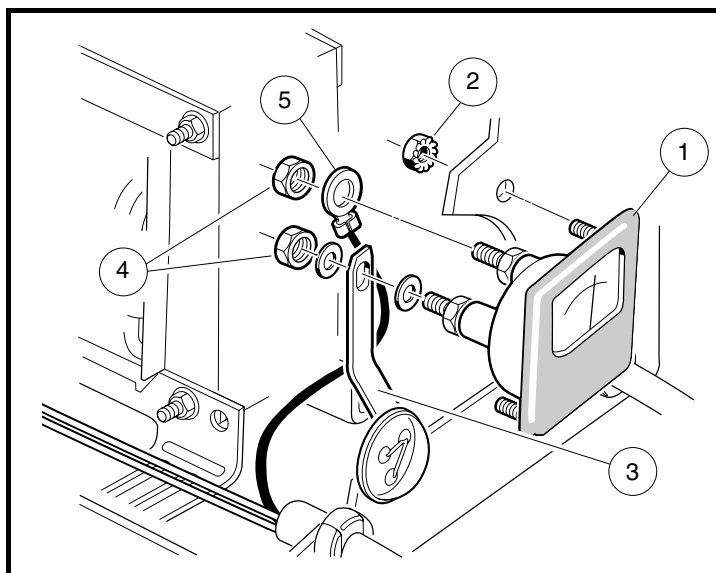

Figure 14-20 Ammeter Removal
2. Disconnect black wire from DC cord (5), and bus bar (3) from ammeter (**Figure 14-20, Page 14-23**).
3. Remove the two nuts (2) that secure the ammeter to the charger face (**Figure 14-20, Page 14-23**).
1. Place the ammeter in position in the charger face (**Figure 14-20, Page 14-23**).
2. Install the nuts (2) and tighten until ammeter is firmly secured (**Figure 14-20, Page 14-23**).
3. Connect the black wire of the DC cord (5) to the left (as viewed from inside the charger) post of the ammeter (**Figure 14-20, Page 14-23**).
4. Connect the bus bar (3) from the fuse link to the right post of the ammeter. Place flat washers on both sides of the bus bar (**Figure 14-20, Page 14-23**).
5. Thread nuts onto both posts of the ammeter until just past finger tight. While holding the outside nut, turn the inside nut counterclockwise 1/4 turn (**Figure 14-20, Page 14-23**). **See following CAUTION.**
- DO NOT ALLOW AMMETER POST TO ROTATE AS THE NUT (4) IS TIGHTENED. IF IT IS ALLOWED TO ROTATE, THE AMMETER COULD BE DAMAGED (**FIGURE 14-20, PAGE 14-23**).
3. Remove both black secondary transformer leads and the bus bar from the back of the fuse link assembly (**Figure 14-20, Page 14-23**).
2. Install the bus bar over the center branch of the fuse assembly and ammeter post (**Figure 14-20, Page 14-23**). Tighten to 27 in.lb (3.0 N-m).
3. Install a secondary transformer lead (black) to one of the two remaining terminals on the back of the fuse assembly. Install the remaining secondary transformer lead (black) to the remaining terminal (**Figure 14-20, Page 14-23**). Tighten to 27 in.lb (3.0 N-m).